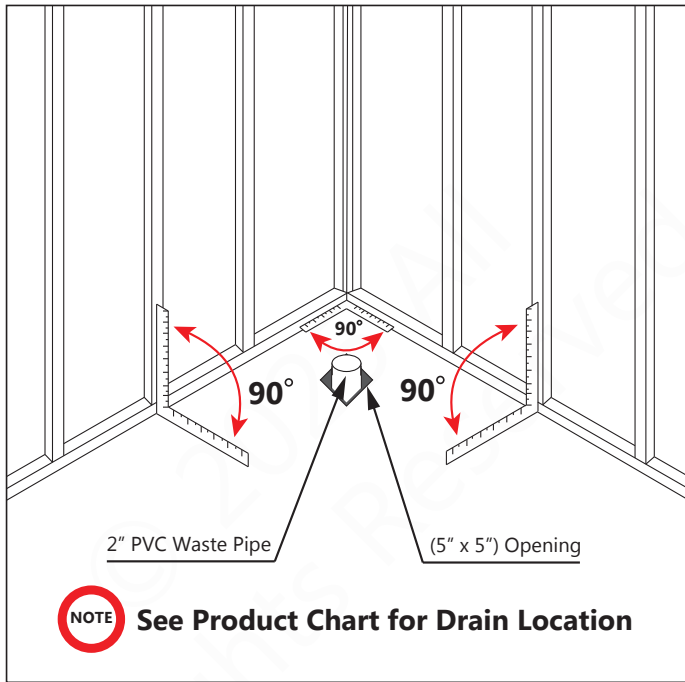
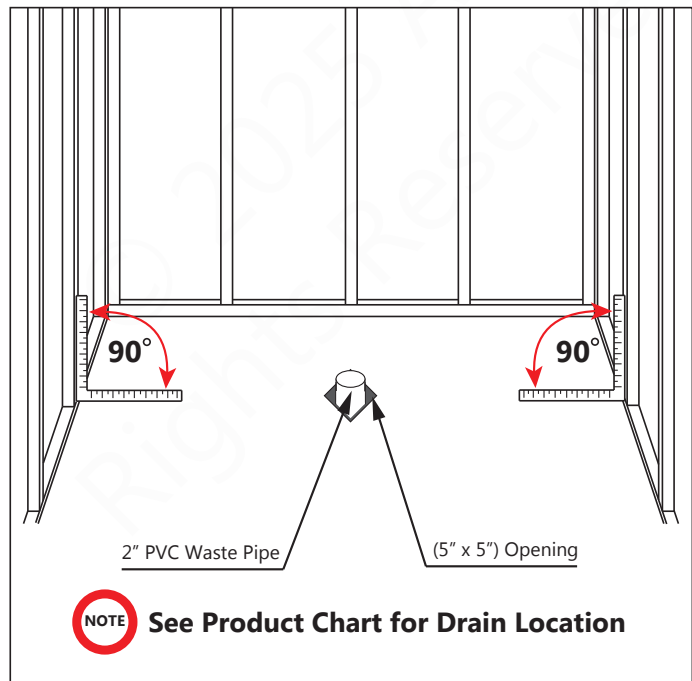

Fig 1a
Fig 1b
- Refer to the product drawings and tables in this installation manual for the drain location (**Fig 1a & Fig 1b**)